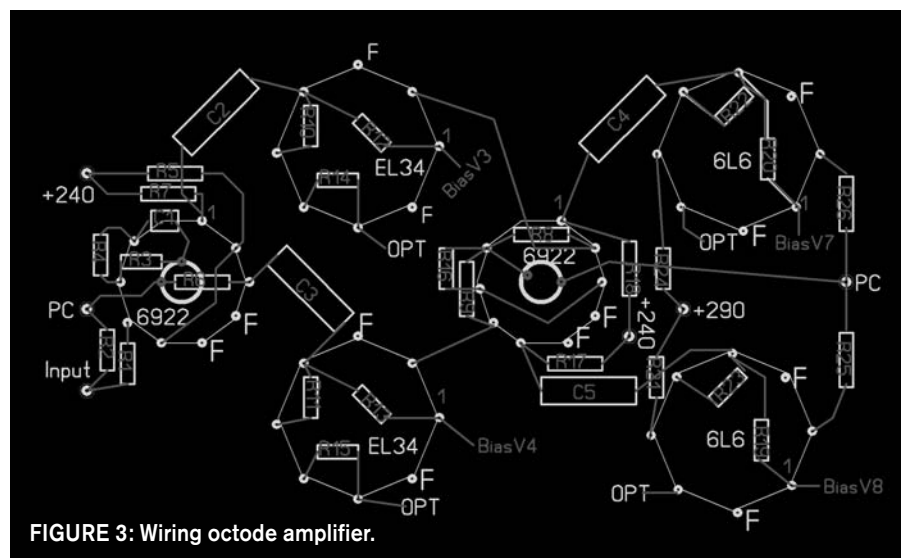

FIGURE 3: Wiring octode amplifier.
Figure 3 shows the wiring of one channel of the octode amplifier. From left to right, you see stages 1, 2, 3, and 4. Using a pair of three-terminal boards will allow you to connect all parts to these TBs and the valve sockets. Use twisted wire pairs for the filaments (F).